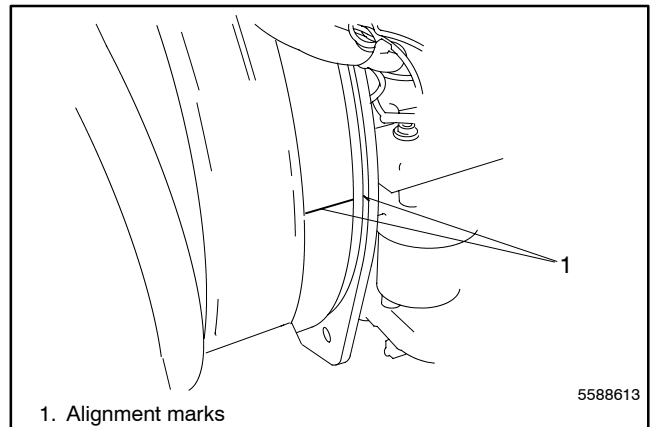

Figure 4-10 Alignment Marks on Stator and Engine Adapter
11. Use a permanent marker (or scribe) to make an alignment mark on the stator and engine adapter for reference during reassembly. See Figure 4-10.